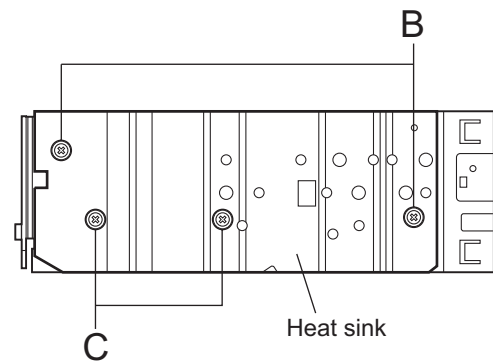

Fig.4
2.1.3 Removing the heat sink (See Fig.4.)